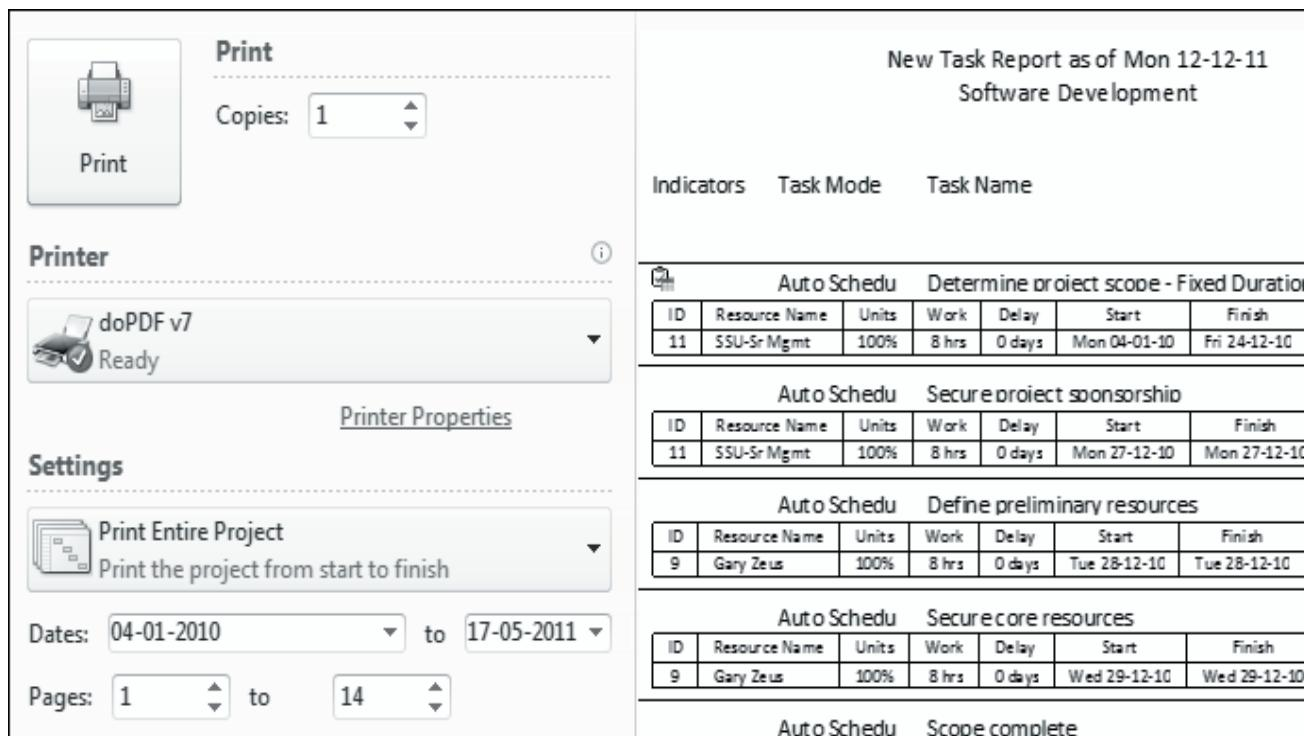

Figure 13.5: Displaying a Sample Custom Report in Backstage View
6. Click **Select** to display the report print preview in the Backstage view of the project as shown in figure 13.5.